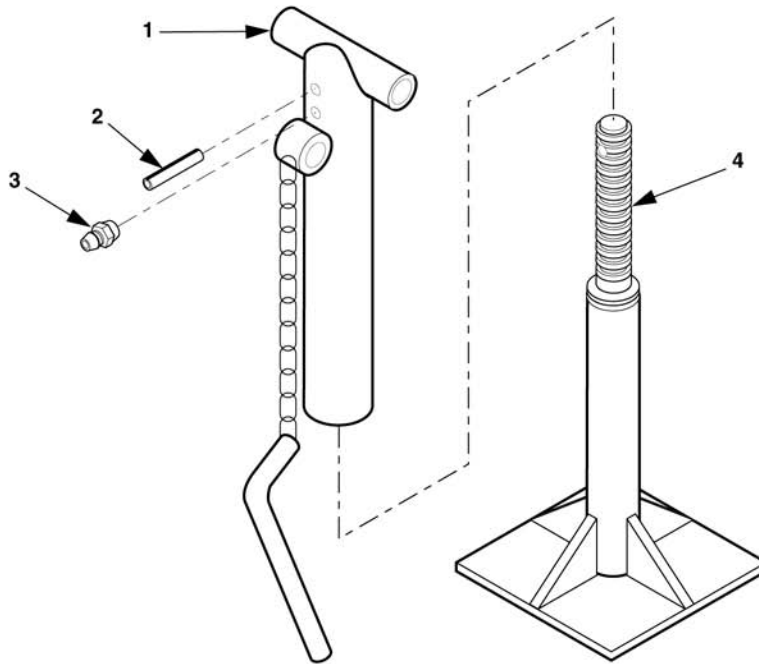

Figure 4-28. Rear Leveling-Support Jack Repair, 1 Ton Trailer.
- a. If removed in disassembly, install lubrication fitting (3), figure 4-28.
- b. Clamp upper leg (1) in a vise with spring pin hole facing up.
- c. Insert leg base (4), align hole and install a new spring pin (2).